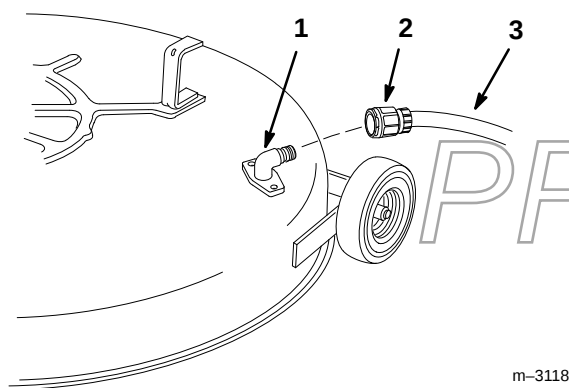

Figure 52
2. Attach hose coupling to the end of the mower washout fitting, turn water on high (Fig. 52).